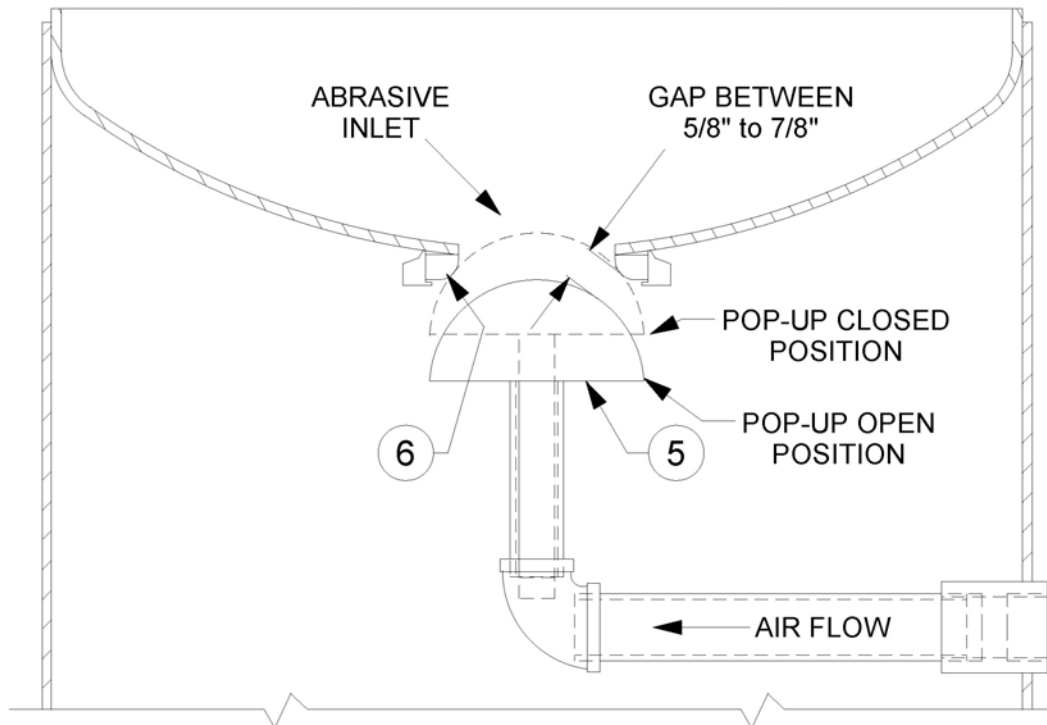

Figure 8.1 – Standard Popup Assembly and Internal Piping
Check the pressure vessel internal piping for corrosion, cracks, wear, holes, or any other damage. Repair or replace damaged components. See Figure 8.1.
- e) Check the popup gap (distance between the popup surface and the gasket). It should be between 5/8" and 7/8". See Figure 8.1. An excessive gap is created by a vertical nipple that is too short. An excessive gap will expose the top of the vertical nipple to abrasive when the popup closes which could result in premature wear to the popup.